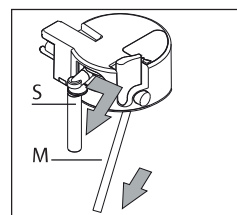

Fig. 45
- Remove the milk spout and intake tube (Fig. 45).